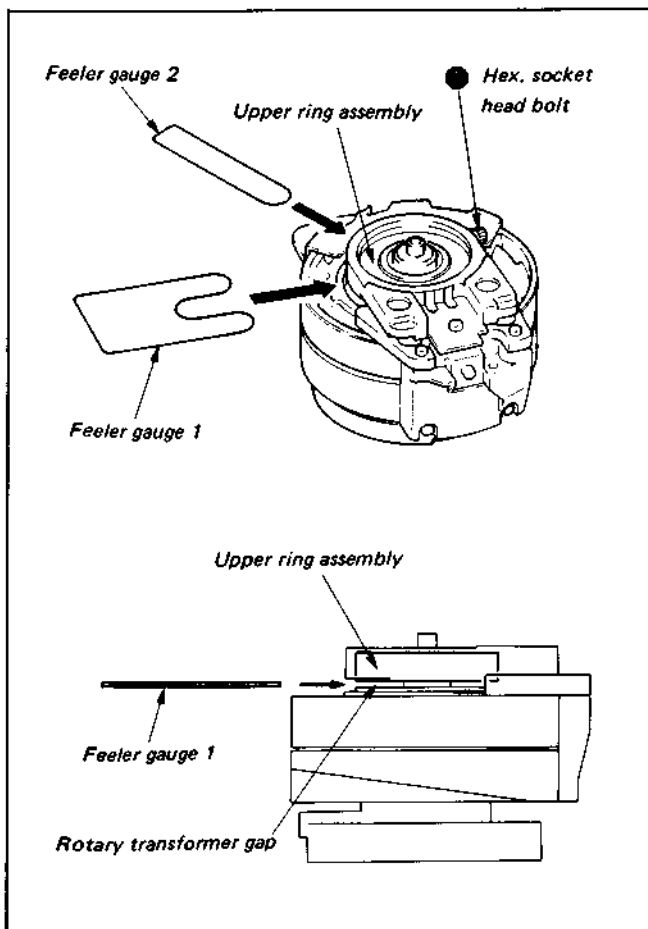

Fig. 3-7 Adjusting AFM rotary transformer gap
- 9) Check the AFM rotary transformer gap with the feeler gauges (See Fig. 3-7). Feeler 1 must go in and feeler 2 must not go in. If the gap is incorrect, readjust the gap. (Refer to Paragraph 3-2-3).
3-2-3. Adjusting AFM Rotary Transformer Gap (See Fig. 3-7)